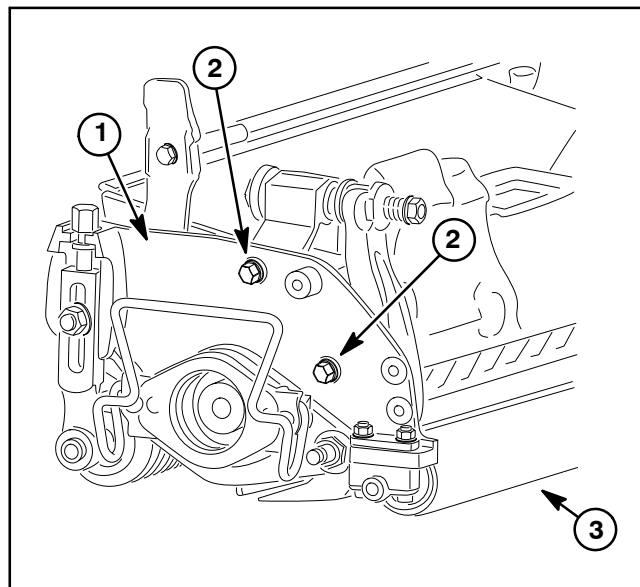

Figure 12
4. Loosen, but do not remove, the two (2) shoulder bolts that secure the side plate to the frame opposite the side that is not level (Fig. 12).